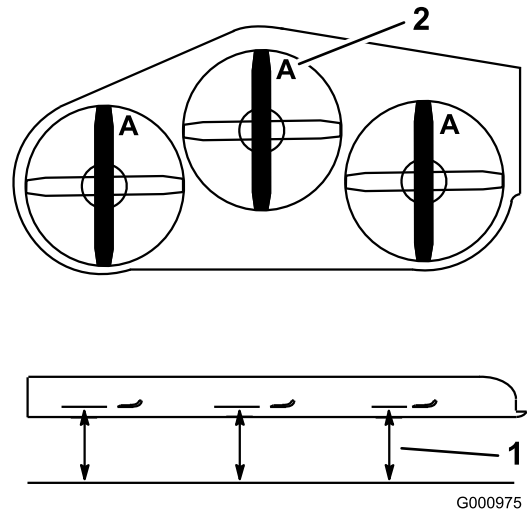

Figure 93
3. Rotate the blades until the ends face forward and backward (Figure 93). Measure from a level surface to the cutting edge, position A, of the blades (Figure 93). Note this dimension.